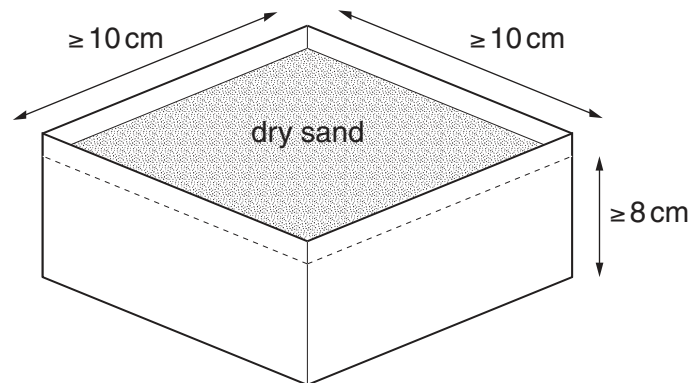

Fig. 2.1
- 1 The container should be filled with the dry sand to a depth of at least 8 cm, as shown in Fig. 2.1.